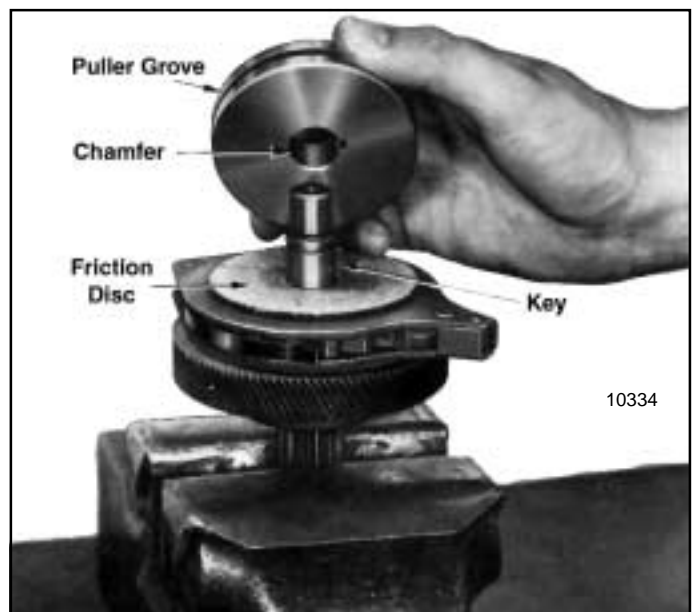

Figure 7-22. View Showing Load Brake Flange Removed
(2) Using a puller tool, remove brake flange from shaft. A groove is provided around outer diameter for this purpose. See figure 7-22. Remove key from shaft and lift off 2 friction discs, and the pawl and ratchet assembly (fig. 7-23).
(5) When installing brake flange position it with chamfer facing friction disc, figure 7-22.